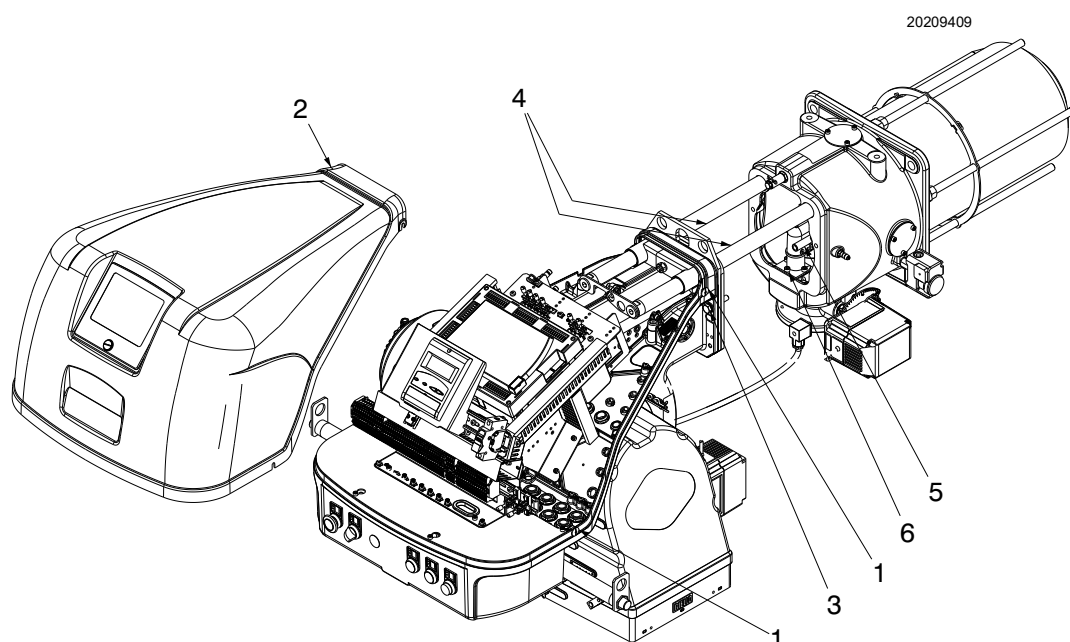

Fig. 39
Make sure that the gas outlet holes for the start-up, on the combustion head distributor, are free of dirt or rust deposits. If in doubt, disassemble the elbow (Fig. 39 on page 43).
- Loosen the 4 screws 1)(Fig. 39) and remove the cover 2);